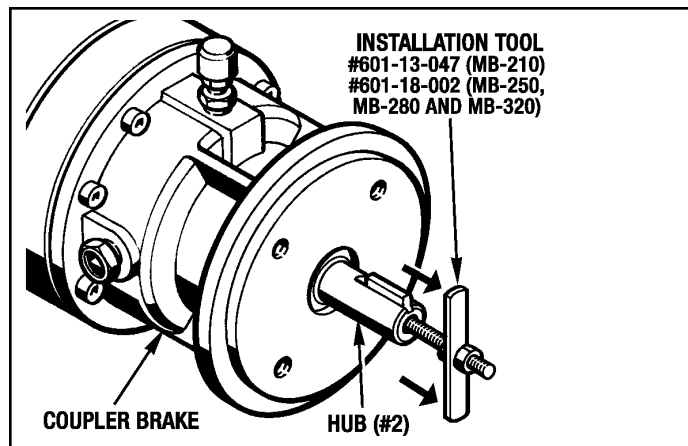

Figure 9.13 - Seating Collet (#110) Completely Into Hub (#2)
8. Grab a hold of the handle and yank hard to seat the Collet (#110) completely into the Hub (#2) bore as shown in Figure 9.13.